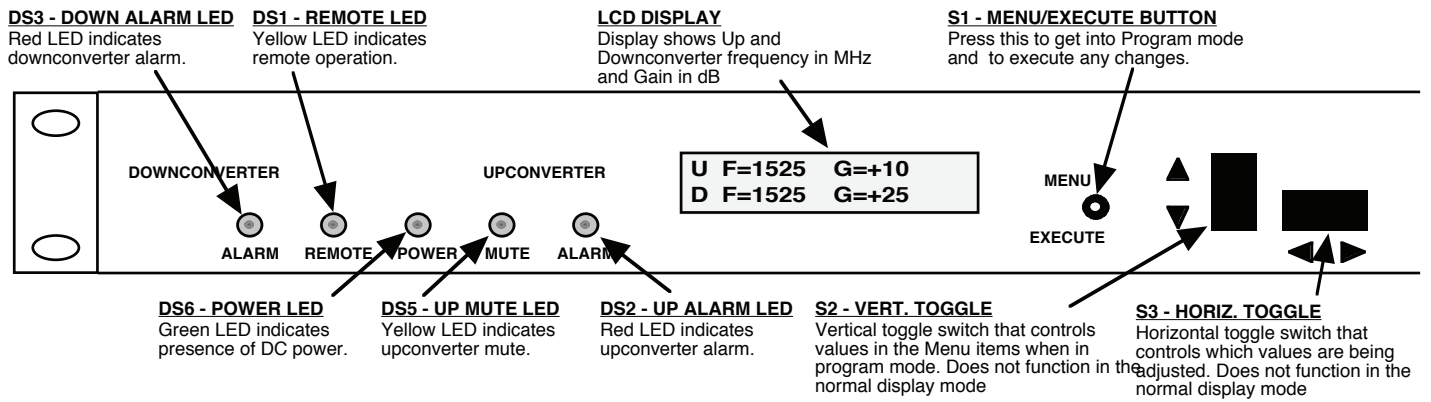

Figure 2.2 Model 2017-02 Front Panel Controls and Indicators
- 8.) Be sure DS6 (green, DC Power) is on and DS2 (red, Alarm) is off (Figure 2.2).
- 7.) Be sure DS6 (green, DC Power) is on and DS2 (red, Alarm) is off (Figure 2.2).
2.5.1 Functions - This section describes operation of the front panel controls. There are three operator switches, the LCD display and alarm indicator LEDs. All functions for the equipment are controlled by these components. The functions are (see Figure 2.2):
Alarm indications appear on the LEDs (see figure 2.2).